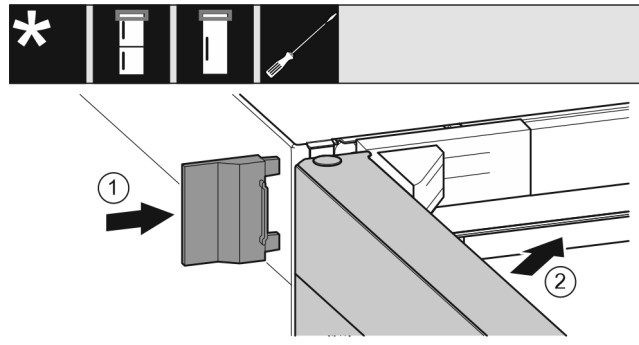

Fig. 25
- ▶ Slide on the outer cover. Fig. 25 (1)
- ▶ Close the upper door. Fig. 25 (2)